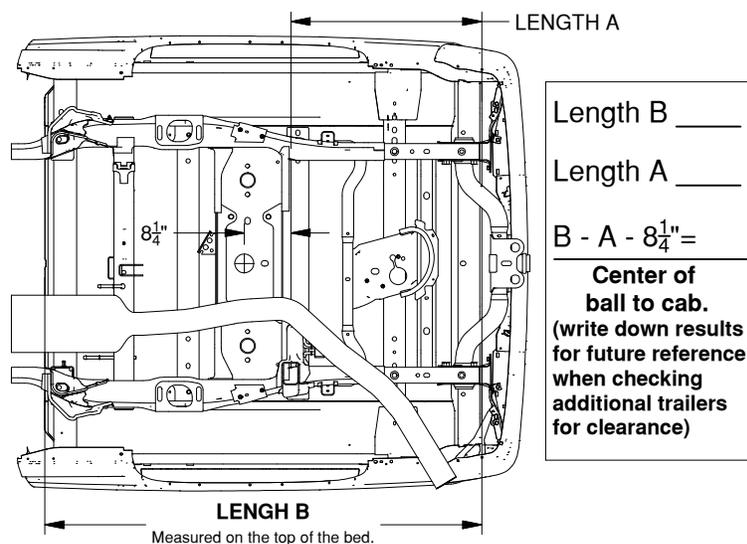
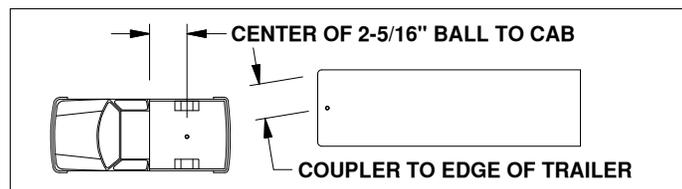

FIGURE A2: View of bottom of truck.
Figure A3: Truck and trailer diagram
1. **Determine cab clearance:** Under the truck bed, measure from the rear most edge of the C-channel frame cross member (over the axle) to the end of the bed, see Figure A2, Length A. Next, inside the bed, measure the length of the bed from the rear edge to the front, see Figure A2, Length B. Subtract the cross member measurement (Length A) from the bed measurement (Length B). Then subtract an additional 8-1/4" inches. This will give you the amount of clearance you have between the 2-5/16" ball location and the cab. Measure the distance from the center of the trailer's coupler to the farthest forward corner point of the trailer. Compare this distance to the measurement from the center of the ball to the cab. These measurements will allow you to see how much clearance you will have between the cab and the trailer while towing and turning, see Figure A3.